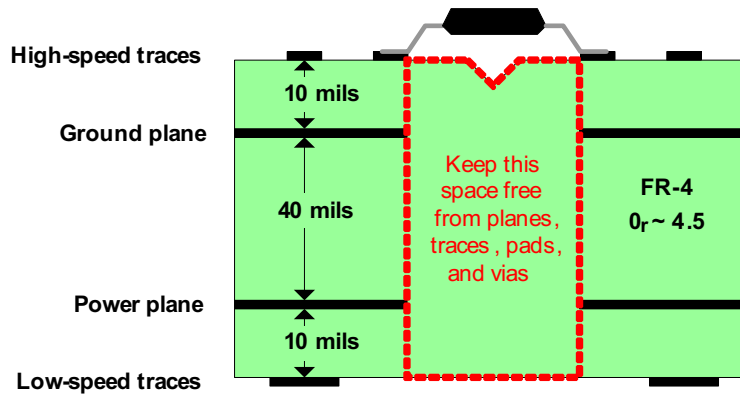

Figure 21. Recommended Layer Stack
On-chip IEC-ESD protection is good for laboratory and portable equipment but never sufficient for EFT and surge transients occurring in industrial environments. Therefore robust and reliable bus node design requires the use of external transient protection devices. Because ESD and EFT transients have a wide frequency bandwidth from approximately 3-MHz to 3-GHz, high-frequency layout techniques must be applied during PCB design. A minimum of four layers is required to accomplish a low EMI PCB design (see Figure 21).
- Apply 100-nF to 220-nF bypass capacitors as close as possible to the VCC-pins of transceiver, UART, controller ICs on the board (see Figure 21).
- Use at least two vias for VCC and ground connections of bypass capacitors and protection devices to minimize effective via-inductance (see Figure 21).
- Use 1-k Ω to 10-k Ω pullup and pulldown resistors for enable lines to limit noise currents in these lines during transient events (see Figure 21).
- Insert pulse-proof resistors into the A and B bus lines if the TVS clamping voltage is higher than the specified maximum voltage of the transceiver bus pins. These resistors limit the residual clamping current into the transceiver and prevent it from latching up (see Figure 21).